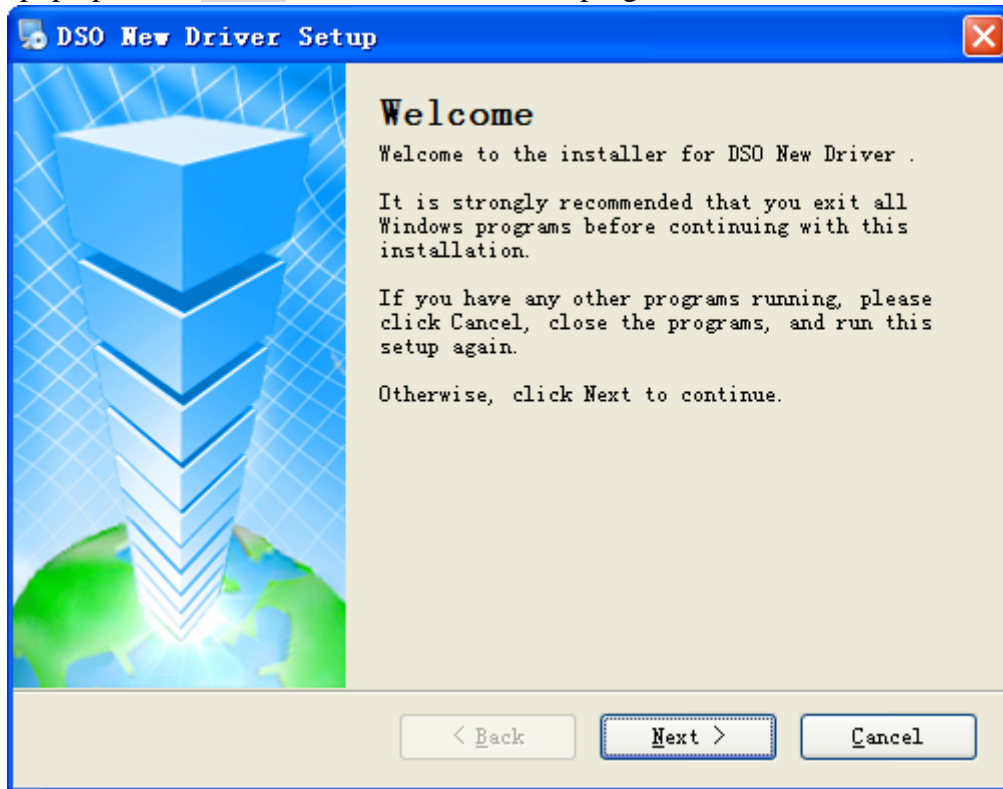

Fig.1-8
Step 2: Double click DSO New Driver to run it. An installation prompt (Fig.1-8) will then pop up. Click **NEXT** to enter the automatic program installation interface.